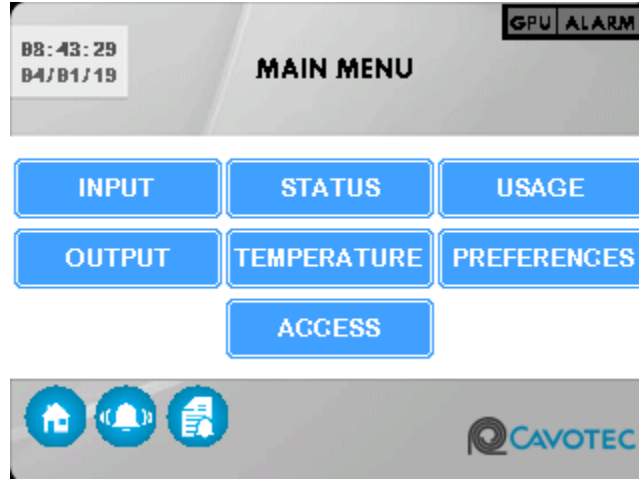

Figure 2-2. Main Menu Screen
3. On the MAIN MENU screen shown in Figure 2-2, press STATUS.